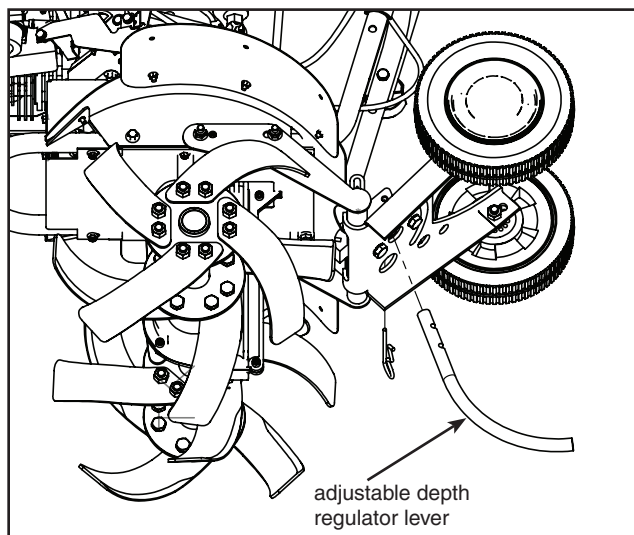

FIGURE 6-Depth Regulator Lever
1. Install the depth regulator lever through hole in bracket from the bottom up with curve to rear of unit and secure with 4 x 95 B pin. **SEE FIGURE 6 ON PAGE 9.**
Tilling depth is controlled by the height of the depth regulator lever. SEE FIGURE 6.